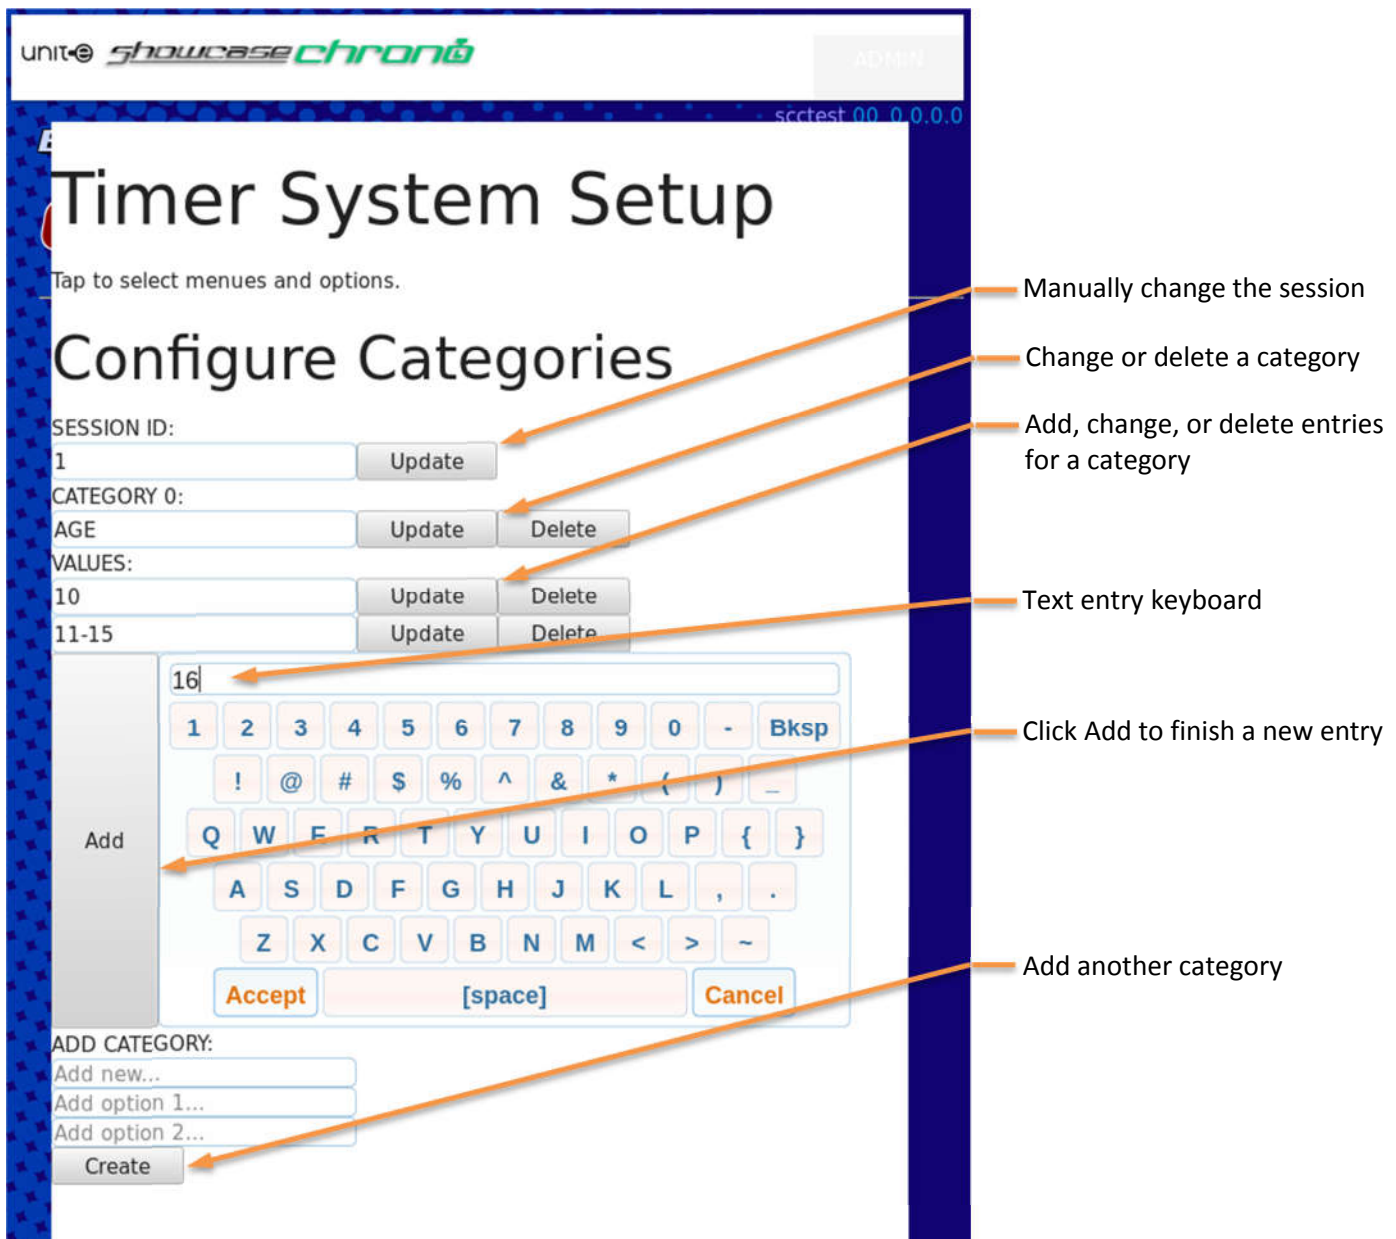

Figure 10: Configuring user categories in the service menu
To set up these categories, access the service menu as discussed in Section 6.2 and tap the Configure Categories entry to expand the options. You will see a section like the one pictured below in Figure 10 but with blank entry fields.
- Values –** The values fields are where you enter the text which shall appear on buttons for users to see under a given category. Each new value added will be a new button. Tap an entry field and type in a value to be added. In the Age example, you might type in 11-15 for the young teens. There should always be an available blank value field below the existing ones to add a new value. Tap this, type in the new value and hit the Add button to add the new value. In Figure 10, an operator is currently filling in a new value for the 16 and up age group.